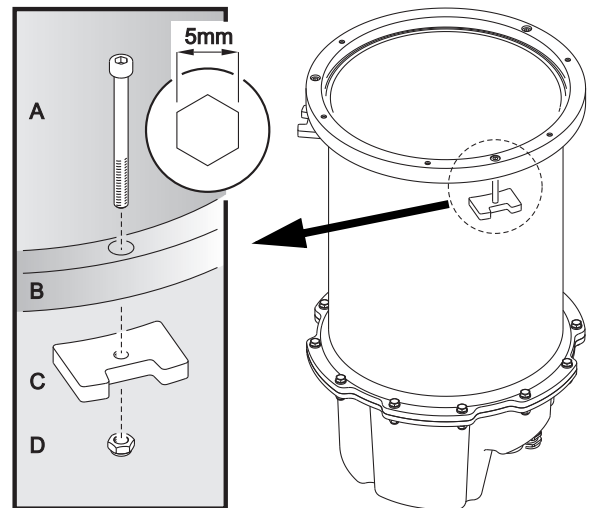

Figure 10: Removing an Inground 200 from its installation sleeve
5. See Figure 10. Loosen the three fixture mounting bolts **A** to loosen the clamps **C**. Rotate the Inground 200 in the installation sleeve until the clamps **C** are clear of the fins inside the installation sleeve, then lift the Inground 200 out of the sleeve.
You will need to use the three new stainless steel M6 x 70 fixture mounting bolts supplied with the new fixture plus the original clamps and nuts (see Figure 10) from the Inground 200. Note that the three new bolts are countersunk and slightly longer than the original bolts from the Inground 200.
- the three stainless steel M6 x 70 fixture mounting bolts, clamps and nuts (see Figure 10 on page 15) that were used to fasten the Inground 200 into the installation sleeve,